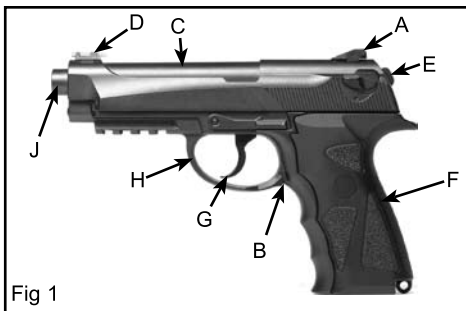

Fig 1
- Remove the magazine by pressing on the magazine release button on the left side of the gun (fig 1).